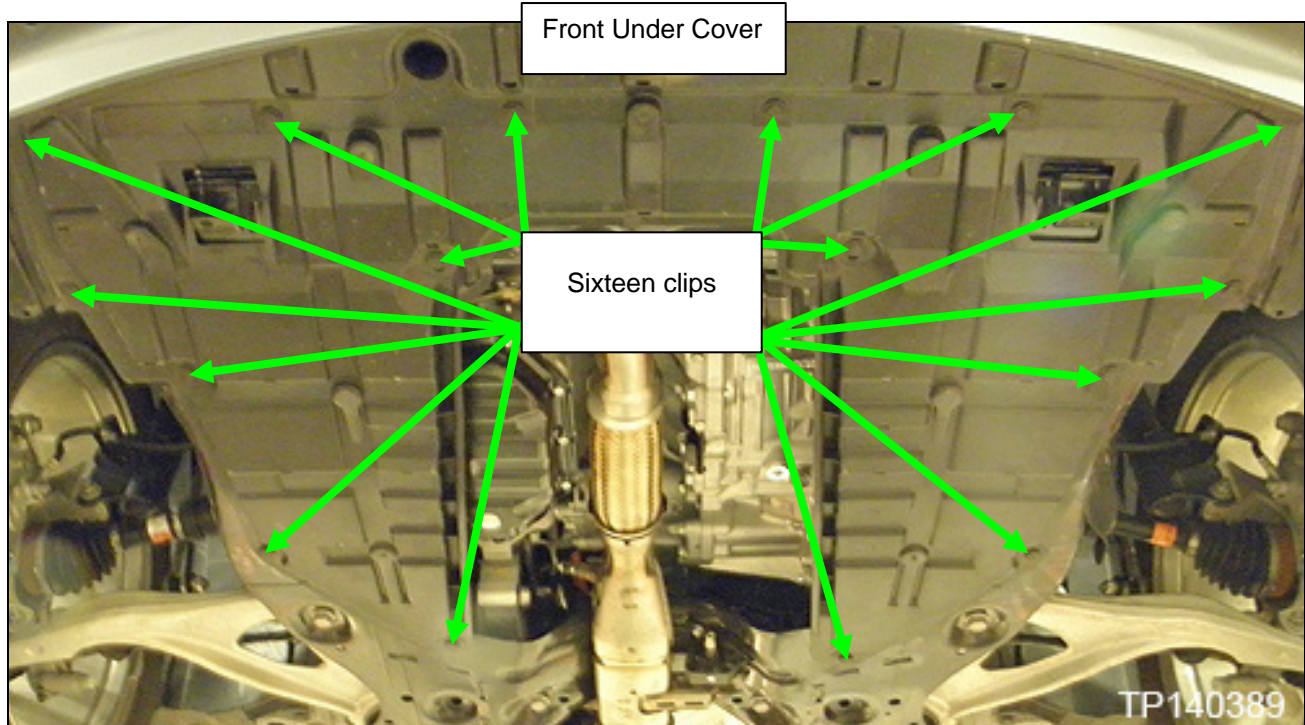

Figure 23
32. Remove the Front Under Cover (Figure 23).